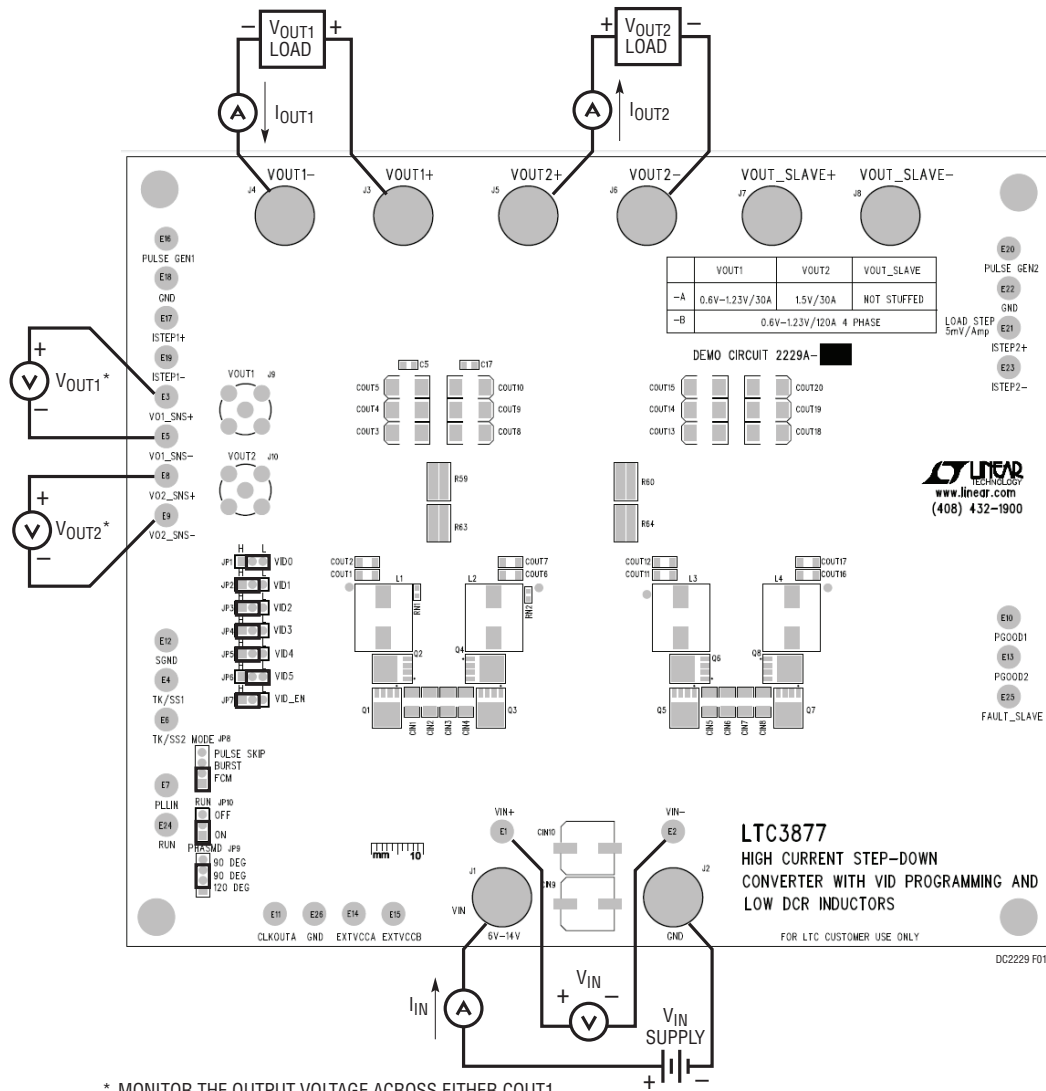
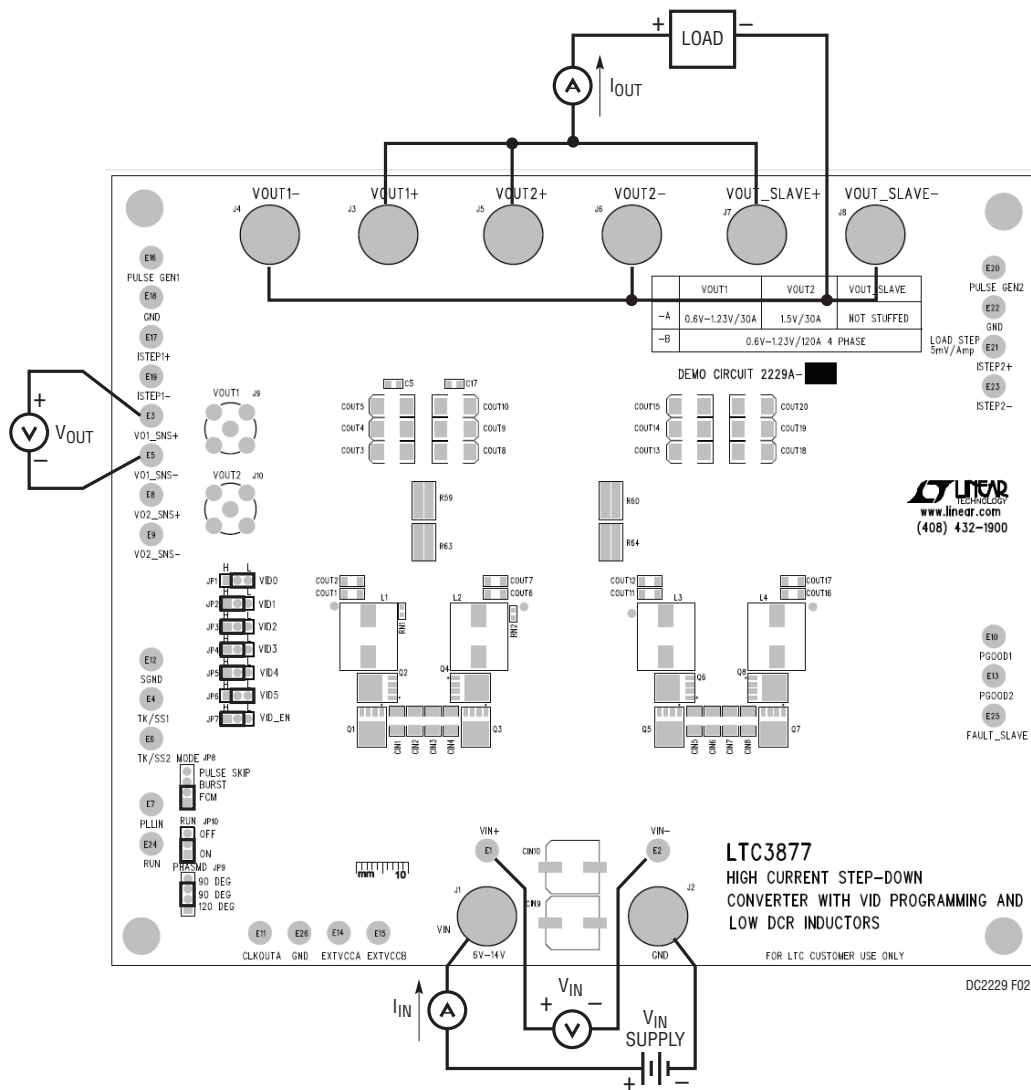

Figure 1. Proper Measurement Equipment Setup for the Dual Output LTC3877 Converter (DC2229A-A Assembly)
Figure 2. Proper Measurement Equipment Setup for the Four Phase LTC3877/LTC3874 Converter (DC2229A-B Assembly)
Demonstration circuits 2229A-A and 2229A-B are easy to set up to evaluate the performance of the LTC3877 and LTC3874. Please refer to Figure 1 (DC2229A-A assembly) and Figure 2 (DC2229A-B assembly) for the proper measurement equipment setup and follow the procedure below.
1) With power off, connect the input supply, load and meters as shown in Figure 1 or Figure 2. Preset the load to 0A and V_{IN} supply to be 0V. For both assemblies, place the jumpers in the following positions: